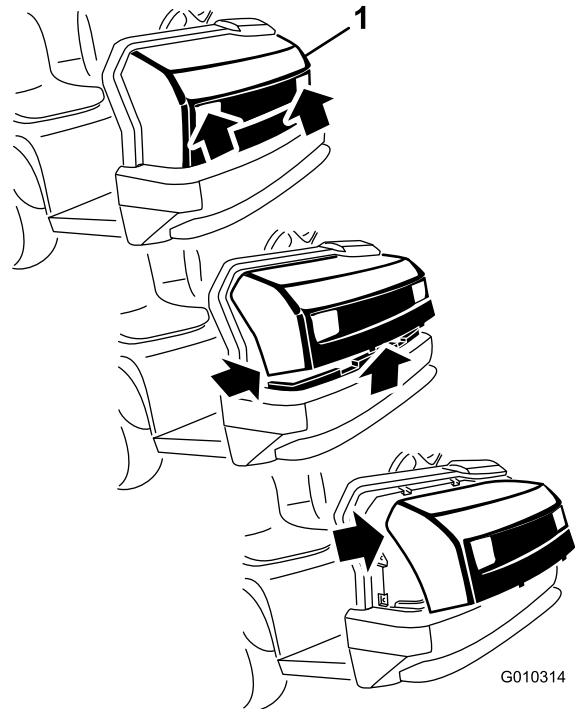

Figure 28
1. While grasping the hood in the headlight openings, lift up the hood to release the lower mounting tabs from the frame slots (Figure 28).
2. Pivot the bottom of the hood upward until you can pull the top mounting tabs from the frame slots (Figure 28).
3. Pivot the top of the hood forward and unplug the wire connectors from the headlights (Figure 28).
2. Insert the top mounting tabs into the frame slots (Figure 28).
3. Insert the lower mounting tabs into the frame slots (Figure 28).